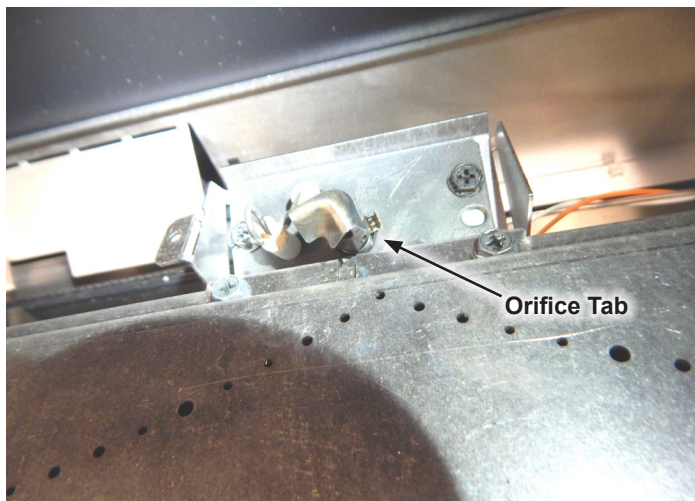

**Figure 8**
15. Re-install the Burner assembly. Align the air shutter over the orifice holder then shift burner assembly to the right. Make sure the center burner retainer tabs are fully engaged with the center support brackets. **See Figure 8.**